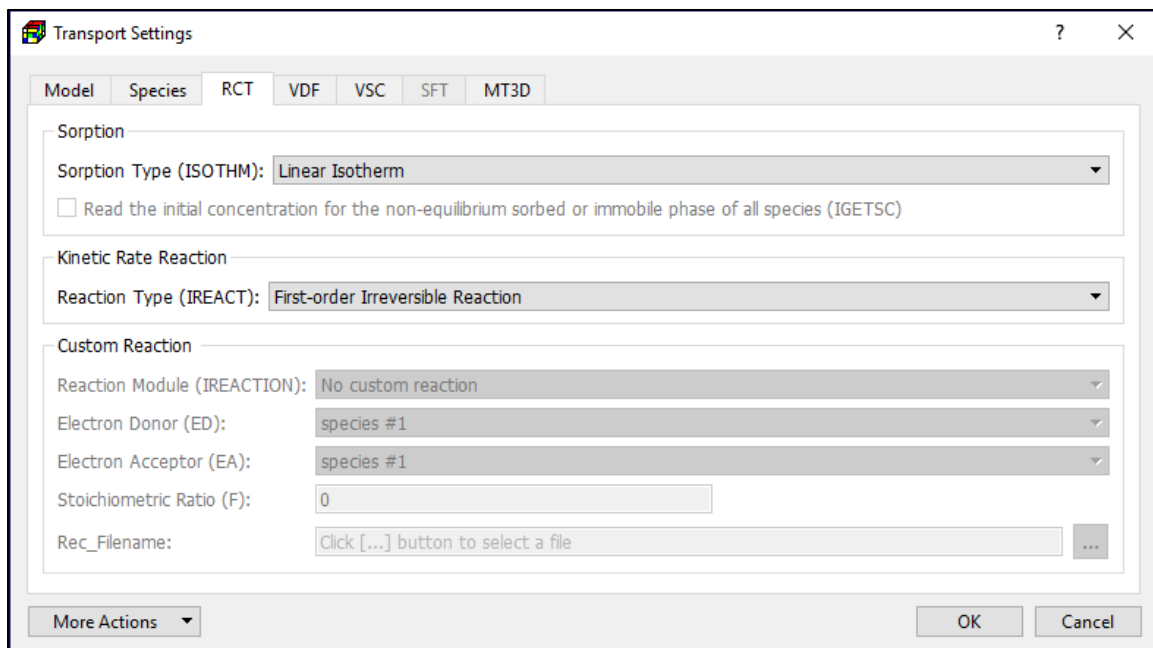

Figure 118. The RCT tab of the Transport Settings dialog box
- **DMUDC** is the slope that relates dynamic viscosity (μ) to solute concentration (C), i.e., $\partial\mu/\partial C$. This is used only if the Viscosity (VSC) package of SEAWAT is turned on.
4. **RCT Tab** (Figure 118) contains options for the Reaction Package. The available sorption and reaction types and their required parameters are described as follows. The required parameters for the selected options must be specified in the *Models > MT3D/SEAWAT > Packages > Reaction (RCT)* menu.